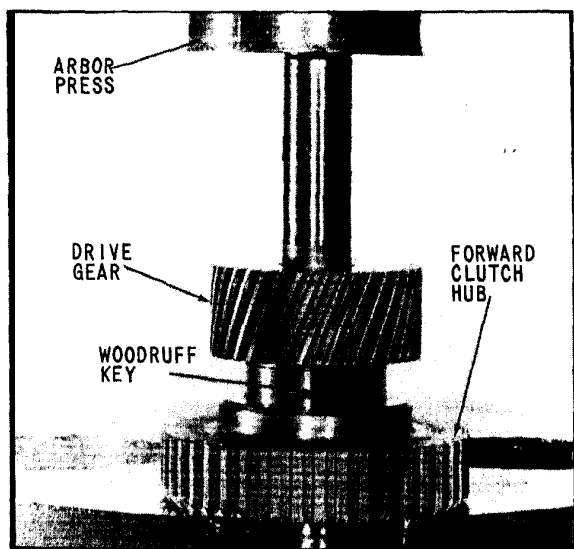

Fig. 44 Pressing Drive Gear into Forward Clutch Hub
31. Place the forward clutch hub on a suitable support placed on an arbor press in the position shown in (Fig. 44).
32. Assemble Woodruff key in the keyway provided on the drive gear, (Fig. 44).
34. Install the drive gear and Woodruff key squarely into the forward clutch hub, being careful to align the Woodruff key with the mating keyway in the forward clutch hub, (Fig. 44). Press the drive gear into the forward clutch hub until the gear "bottoms" on the face of the forward clutch hub and the groove for the snap ring is fully uncovered.